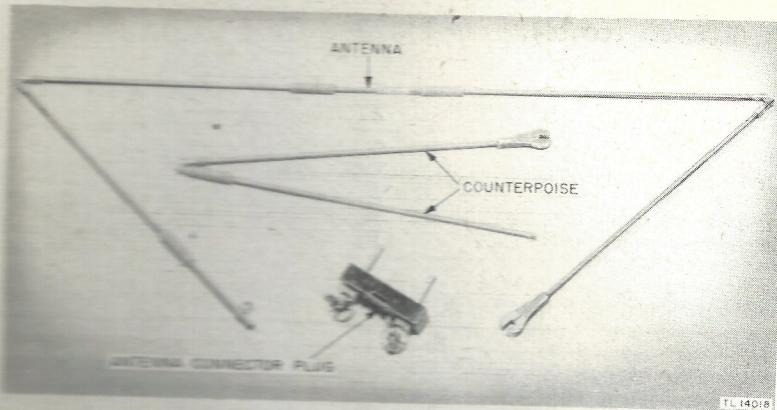
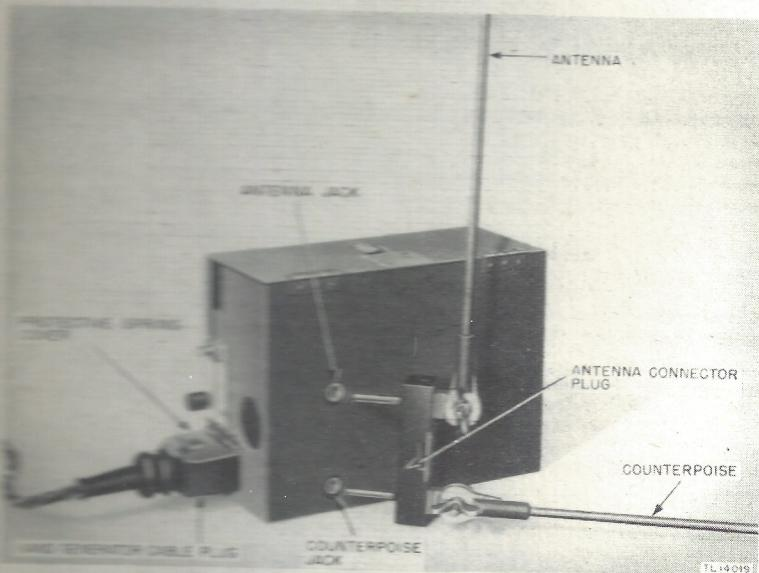

Figure 11. Antenna, counterpoise, and antenna connector plug, disassembled.
Figure 12. Japanese Radio Set Model 94 Mark 6, rear view, installation of generator cable plug and antenna connector plug.
**b. Antenna.** A disassembled view of the antenna, counterpoise, and antenna connector plug is shown in figure 11. Assemble the folded sections of the antenna and counterpoise. Clamp the spade end of the antenna to the **天线** (antenna) terminal of the antenna connector plug. Clamp the spade end of the counterpoise to the **地** (counterpoise) terminal of the antenna connector plug. See figure 12. The wingnut terminals are grooved in four relative positions
**c. Power Supply.** (1) For operation of the set with hand generator and battery pack, connect power supply cording as shown in figure 14. Open the protective metal flap covering the generator cable socket in the set (fig. 12) and insert the generator cable plug in the set. Plug the other end of the generator cable into the generator. Plug the two battery pack cable sockets into the battery pack cable plug. This